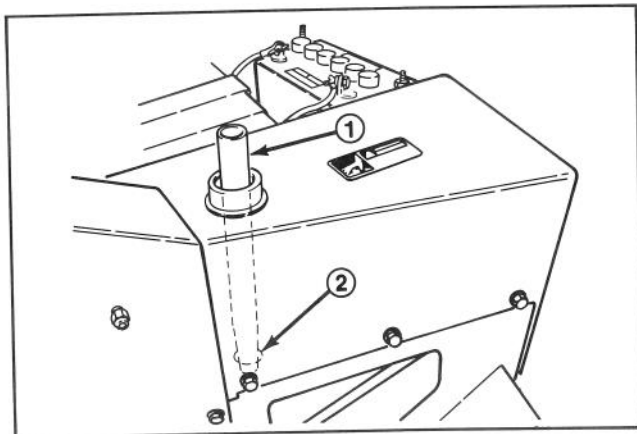

Figure 34
- 2. If only the filter is to be changed, remove reservoir cap and insert reservoir plug (Fig. 34), to block